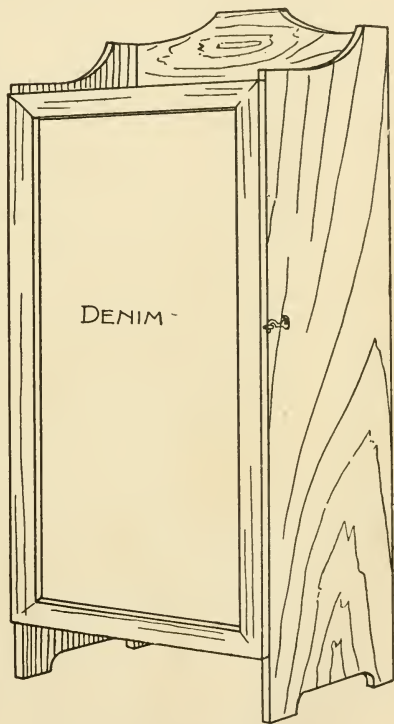

FIG. 59.—A Curio-cabinet.
**A Curio-cabinet**, similar to Fig. 59, will make it possible